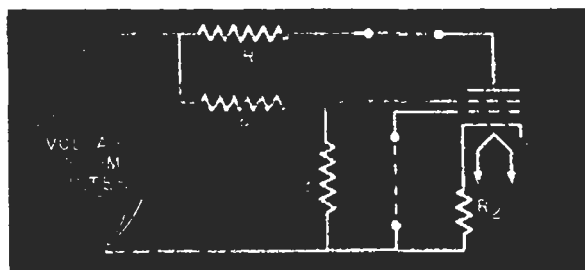

FIG. 23. A typical bleeder circuit.
► Fig. 23 shows a typical bleeder voltage divider. Screen grid voltage reduction is produced by R_1 , which carries both the bleeder current drawn by R_3 and the screen grid current of the tube. The bleeder serves to stabilize or hold steady the screen grid voltage. Should the bleeder open, however, only the screen grid current would flow through R_1 , so its voltage drop would be less and more
4. What type of current exists at the output of the rectifier tube: (1) *a.c.*; (2) *pure d.c.* or (3) *pulsating d.c.*?
9. Suppose the bleeder resistor opens in the circuit shown in Fig. 23. Would you expect the screen grid voltage to: (a) *increase*; (b) *decrease*, or (c) *remain the same*?
10. Would you expect to find: (1) *a choke input*; or (2) *a condenser input filter* used with a mercury vapor rectifier tube?